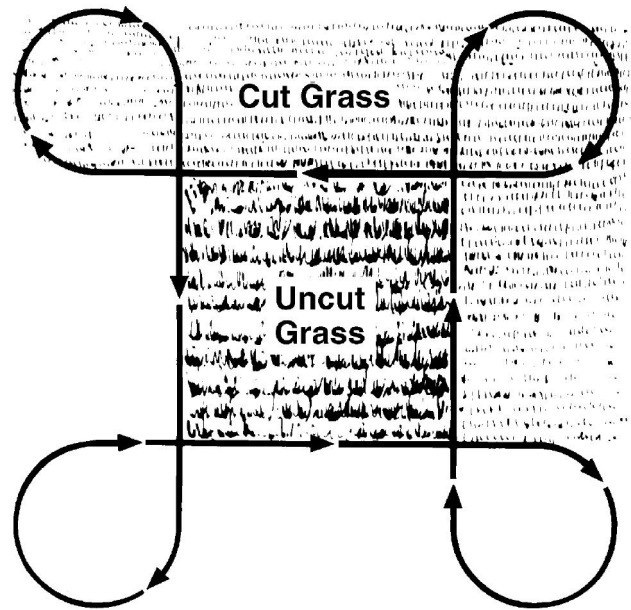

Figure 4-4
4. Follow the mowing pattern shown in Figure 4-4.